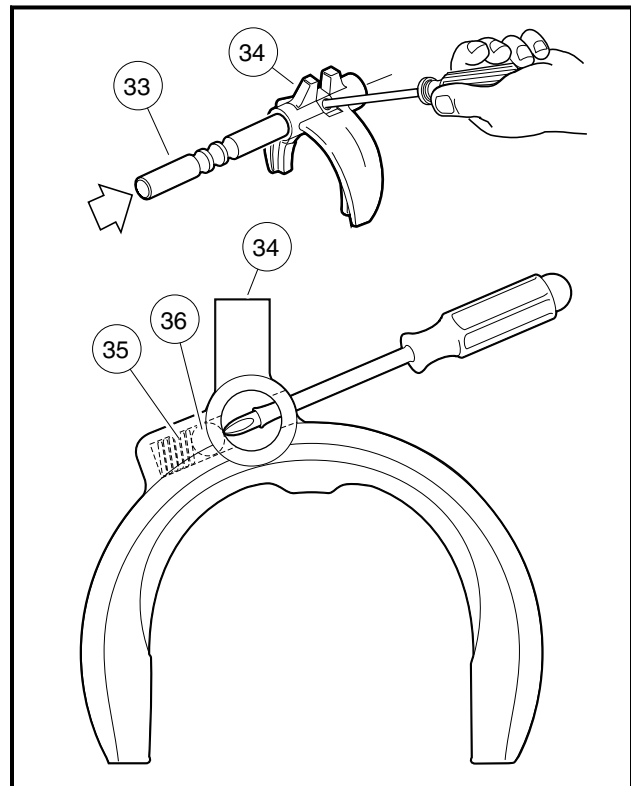

Figure 19-34 Insert Shift Rod Past Ball
2. Use a no. 1 tip phillips screwdriver to depress the ball and spring while inserting shift rod (33) into the shifter fork (34). Remove screwdriver when the shift rod is inserted far enough for it to depress the ball and spring, then continue to insert rod until the ball is positioned in the middle detent on the rod (**Figure 19-34, Page 19-18**).